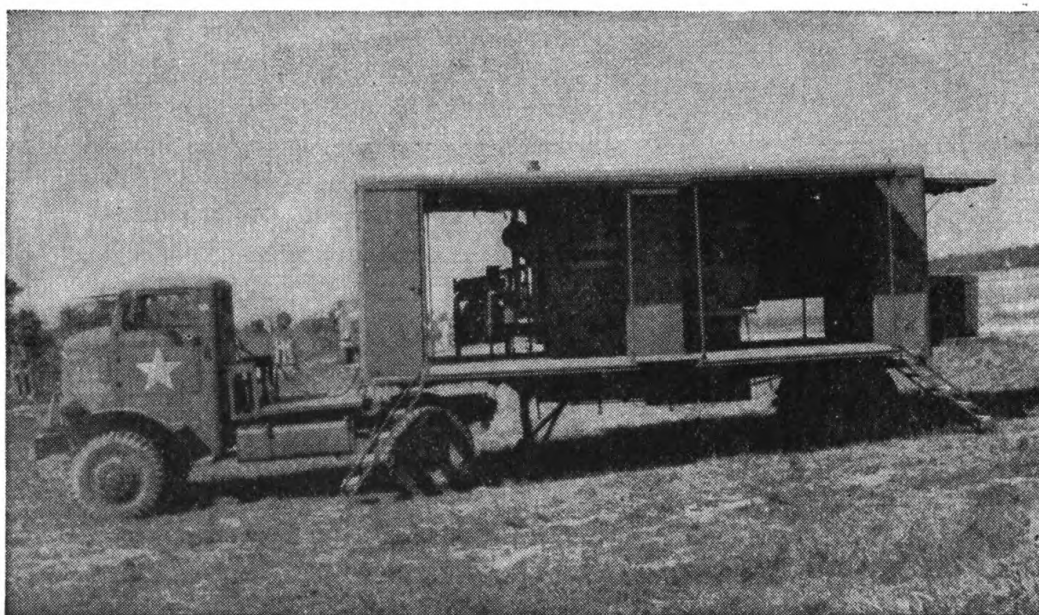

FIGURE 1.—Semitrailer, two-wheel, van type.
d. Assigned to each sterilization section are one truck, 4- to 5-ton 4 x 4 tractor, and one semitrailer, two-wheel, van type, as illustrated in figure 1, on which is mounted the following equipment: